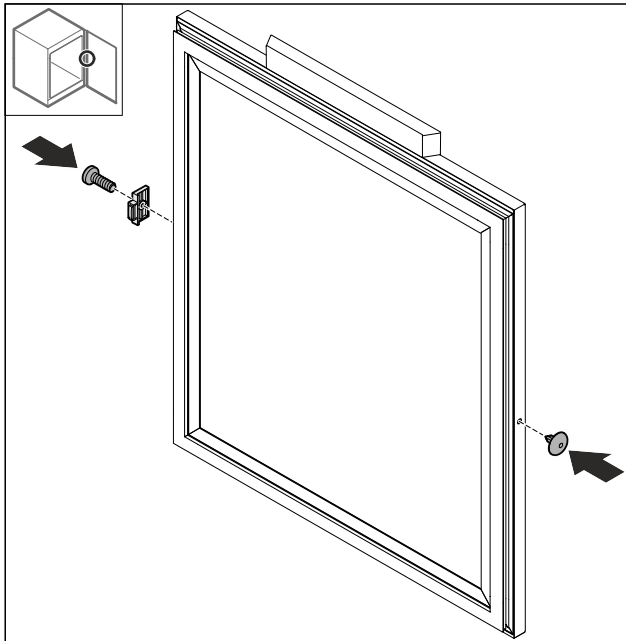

Fig. 49
- ▶ Turn the door stopper Fig. 49 (1) 180° and fit it on the opposite side.
- ▶ Insert the cover Fig. 49 (2) on the opposite side.